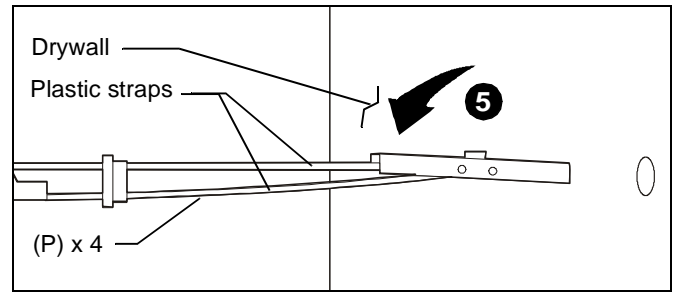

Figure 9
- Hold metal channel on anchor (P) flat alongside plastic straps and slide channel through hole. (See Figure 9)